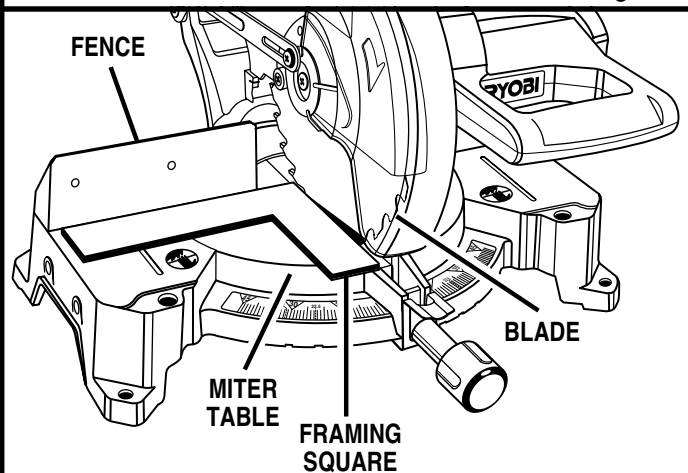

Fig. 22
- If the front or back edge of the saw blade angles away from the square as shown in figures 22 and 23, adjustments are needed.